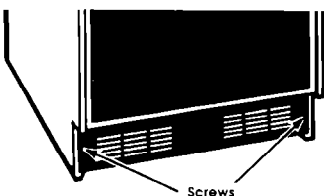

Figure 5
6. Remove the two screws attaching the air grille to the ice maker. Remove the air grille. (See Figure 5.)